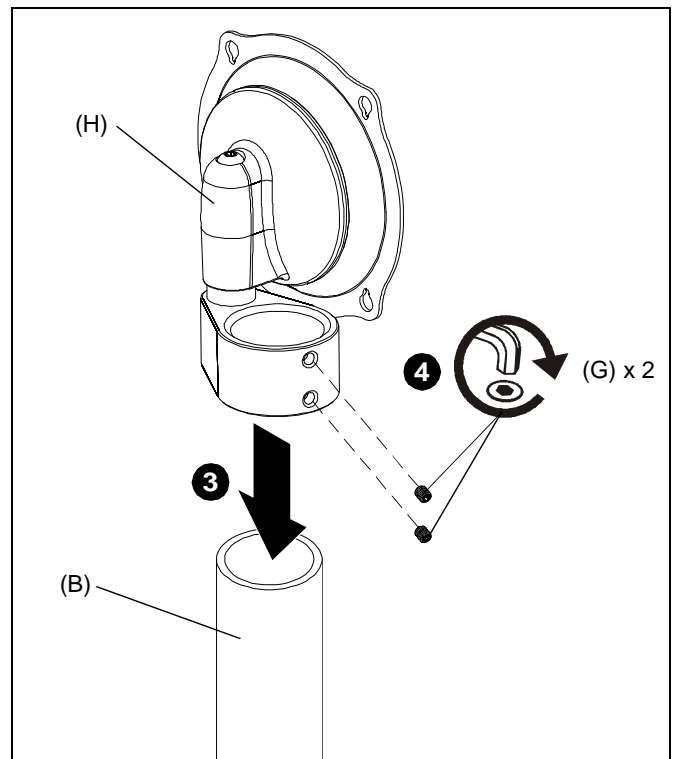

Figure 1
3. Slide Centris head assembly (H) onto pole mount.
4. Tighten head assembly to pole using two 5/16-18 x 3/8" set screws (G). (See Figure 1)